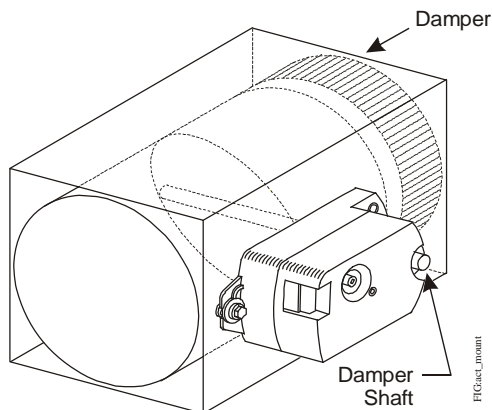

Figure 4: Mounting the Actuator onto the Damper Shaft
4. Make a note of the rotation range and direction, either Clockwise (CW) or Counterclockwise (CCW), required to close the damper.
5. Position the actuator onto the damper shaft so that the damper shaft protrudes through the actuator coupler, as illustrated in Figure 4.